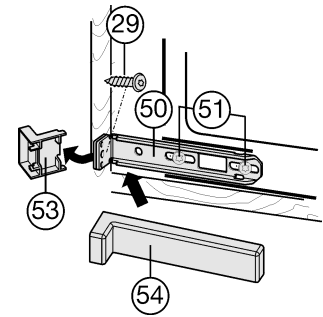

Fig. 20
- ▶ Slightly loosen the screws Fig. 20 (51).
- ▶ Secure the bottom mounting bracket Fig. 20 (50) to the unit wall with a ø4x19 chipboard screw Fig. 20 (29).
- ▶ Break off the protruding end of the cover Fig. 20 (53).
- ▶ Tighten the screws Fig. 20 (51).
- ▶ Place the cover Fig. 20 (54) into position on the bottom mounting bracket Fig. 20 (50).